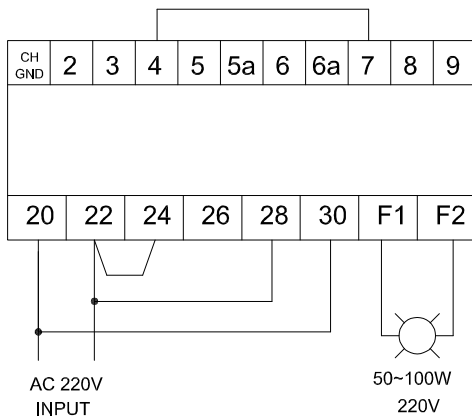

Figure 7 AVR Testing Wiring Diagram
1. Setup ADVR63-125-12 as shown in Figure 7, and switch SW5 to OFF position.